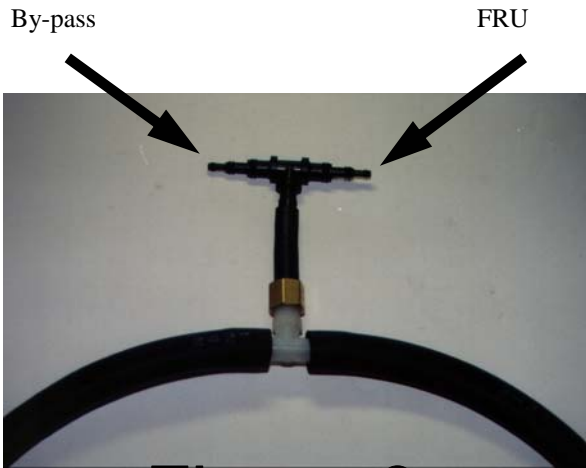

Figure 9
Step 17. Run the 5/32 x 80" line from the fitting on the top of the FRU to one side of the 5/32" tee. Route the 5/32" x 27" vacuum line from the tee to the bypass valve installed earlier. See Figure 9. Use the supplied wire ties to secure the vacuum line away from any heat source or moving parts. Make sure to leave a little slack on the line to allow for engine torque.